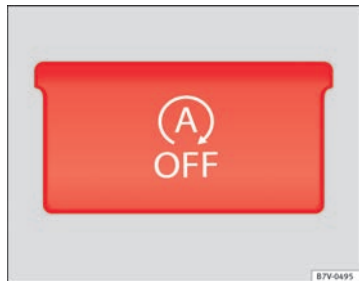

Fig. 141 Detailed view of the centre console: Start-Stop function button
- Press the  button on the centre console → Fig. 141.